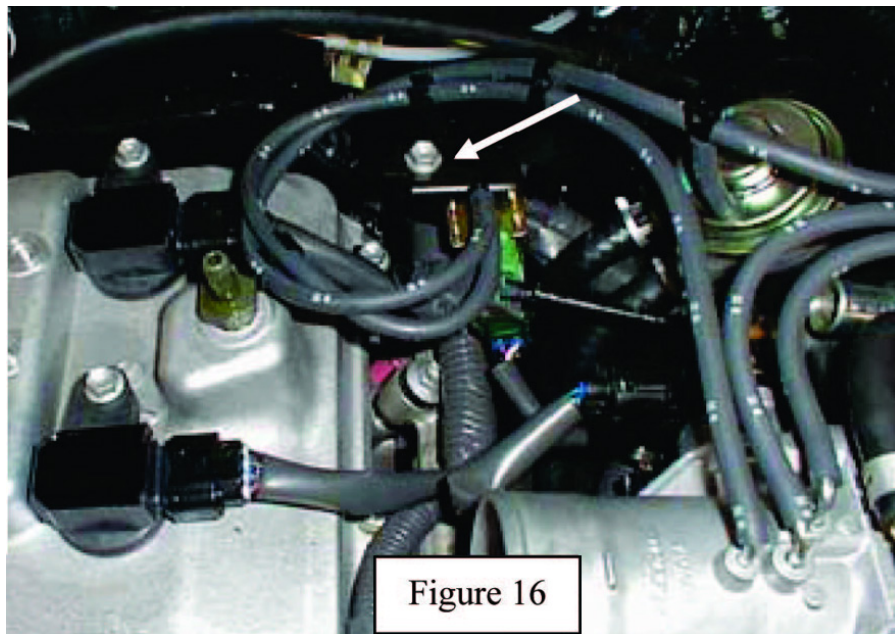

Figure 16
2.) Mount the EGR modulator VSV to the "Z" bracket. (See Figure 16). Use the OE 6mm bolt and washer. Torque bolt to 6 ft-lbs.